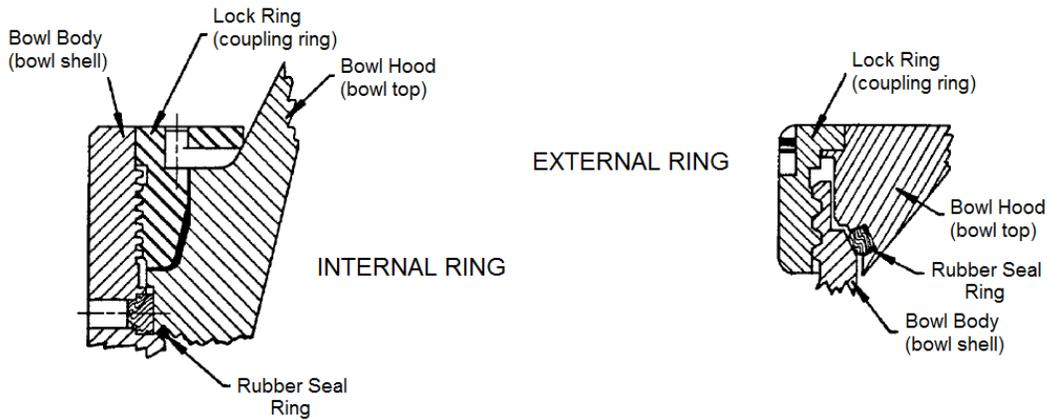

Figure 551-88L-2043\_02
(1) The lock ring and bowl body and their corresponding threads must be kept in good condition, and constantly monitored. Particularly close attention must be given to the condition of the threads. Failure to recognize damage, wear, corrosion or erosion on these critical parts, or to rectify same can result in conditions which would render the centrifuge unsafe to operate and hazardous to personnel, plant, and equipment.
(2) Alfa-Laval centrifuges utilize two types of lock rings; an internal type in which the ring screws down inside the bowl body against the bowl hood, (refer to Figure 551-88L-2043\_02), and an external type in which the ring screws down on the outside of the bowl body and compresses the bowl hood against the body.